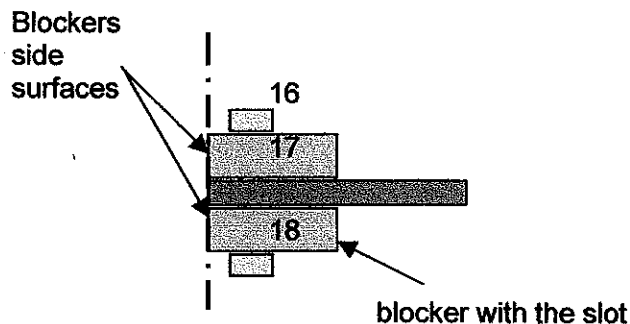

Fig.10
If the distance between blade tip and fan ring is not as predicted, the fan diameter can be reduced, rotating the blockers (17) (18), as shown in following Fig.10. The blocker bolts must be tightened to the torque shown on section 2.4.